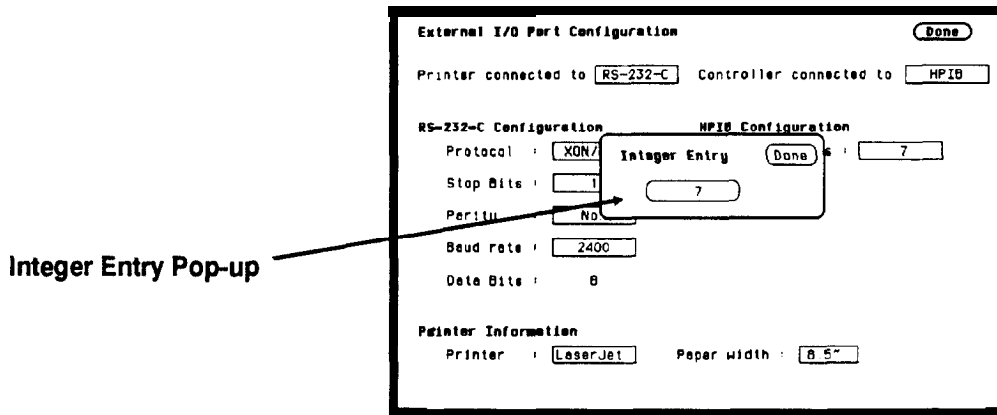

Figure 5-15. Integer Entry Pop-up
1. Select the External I/O Port **Configuration** menu and place the cursor in the field directly to the right of **HP-IB Address:**. Press **SELECT** and an Integer Entry pop-up appears. See figure 5-15.